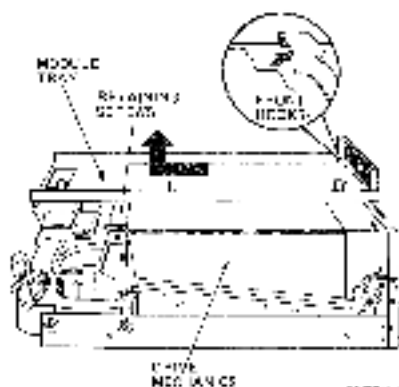

Figure 4-21 Separating the Module Tray From the Drive Mechanics
4. Remove two screws, one on each side of module tray (Figure 4-21).
6. Hook front of module tray into drive mechanics (Figure 4-21). Secure rear of module tray to drive mechanics with two screws.